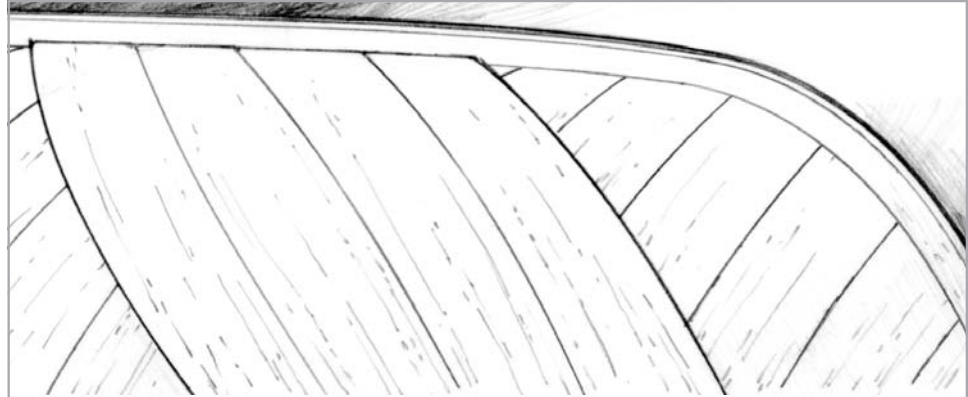

Figure 5-22 Bond the second layer of veneers in the opposite diagonal to the first layer.
5. Repeat the process on the second layer (*Figure 5-22*). Begin with the first veneer about midpoint at a 35° diagonal in the opposite direction to the first layer. Trim and bond the remaining veneers.